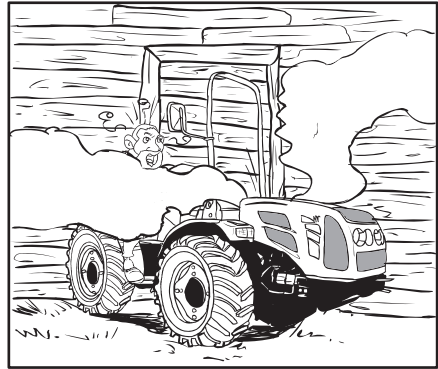

Fig. 2.9
*Before starting the engine, make sure there is sufficient ventilation. Never start the engine in closed spaces. The exhaust fumes can cause asphyxiation (Fig. 2.9).*